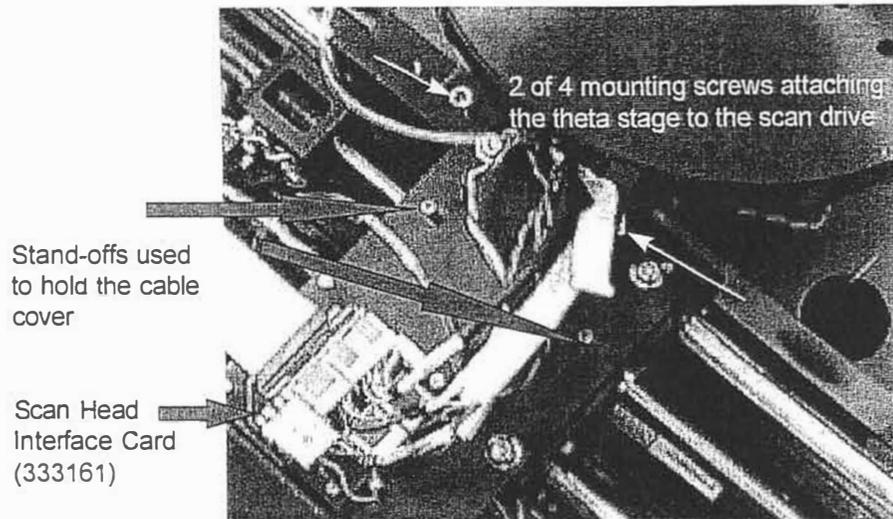

Figure 2.3.1
- .4 Remove the 2 screws cable cover. The stand-offs holding the screws are shown in figure 2.3.1.